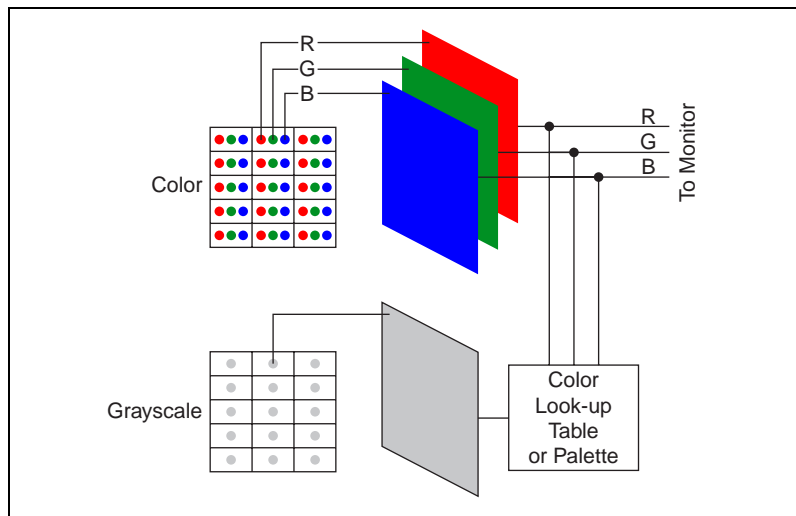

Figure 2-2. Number of Planes in an Image
- Number of Planes—The number of arrays of pixels that compose the image. A gray-level or pseudo-color image is composed of one plane, while a true-color image is composed of three planes—one for the red component, one for the blue, and one for the green—as shown in Figure 2-2. For a color version of this figure, see the PDF version of this document, which you can find in **Start»Programs»National Instruments IMAQ Vision Builder»IMAQ Vision Builder Tutorial**.